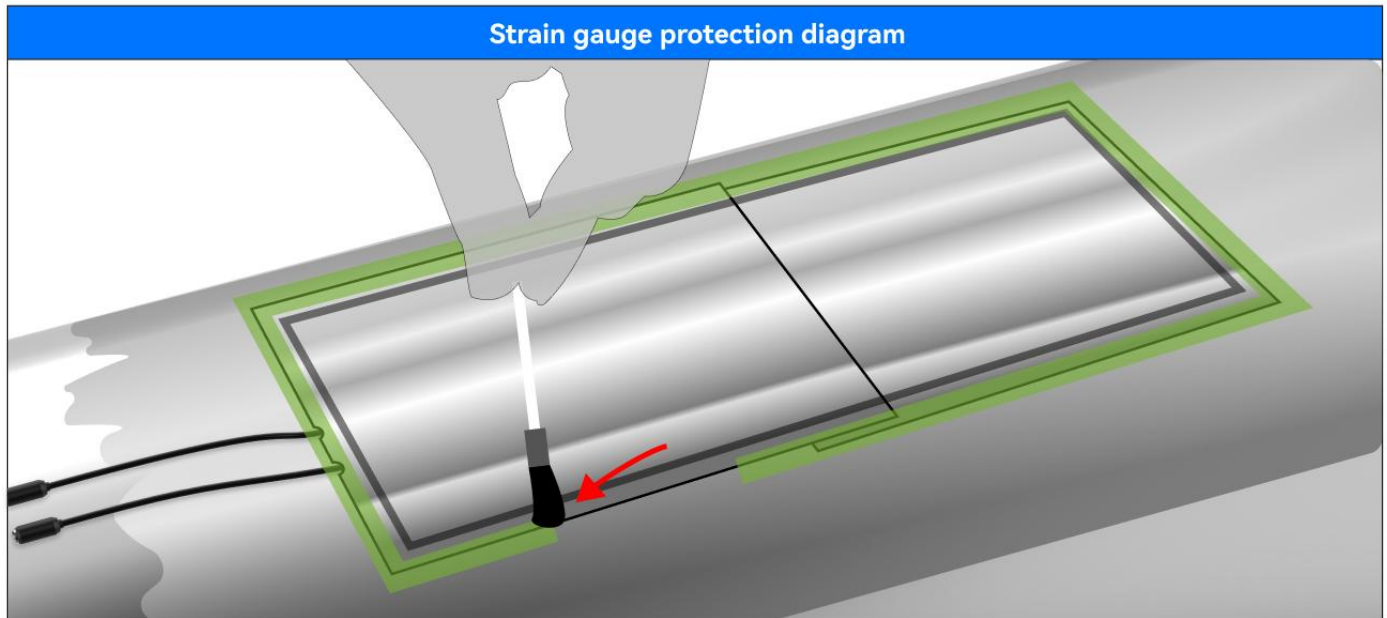

Figure 3.24
5. Use a brush brush to apply a butyl flexible rubber sealant to the contact between the foil edge and the shaft surface to provide a good seal, as shown in Figure 3.24. In addition, spray along the joint of the two foils (where they overlap each other). Pay special attention to the area around the cable leaving the foil.